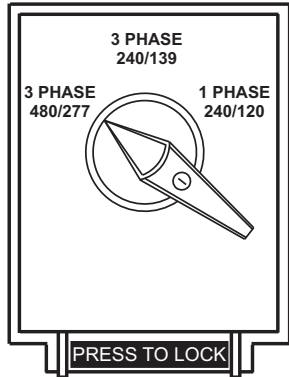

Figure 20. Voltage Selector Switch
1. Place the **Voltage Selector switch** in the **3-phase 480/277-volt position** as shown in Figure 20.